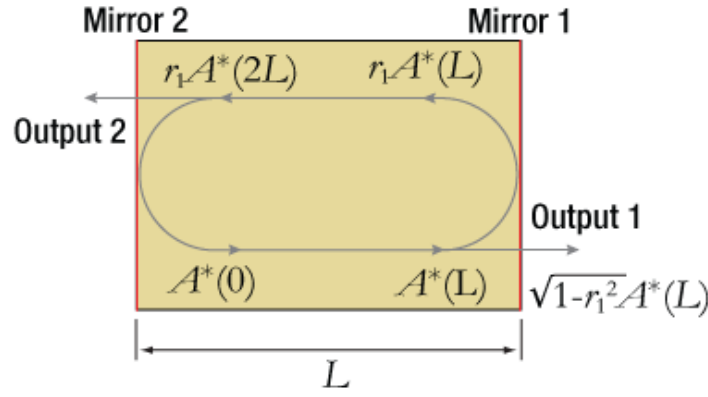

Figure 1: Fabry-Perot Laser Structure
Two elements are required for a laser to operate: (1) an active gain medium that amplifies the optical signal and (2) a feedback mechanism to provide sustained laser oscillation. In a Fabry-Perot laser, two mirrors having a reflection coefficient r_1 and r_2 (power reflectance $R_1 = r_1^2$ and $R_2 = r_2^2$) provide feedback for the optical field, as shown in Figure 1.